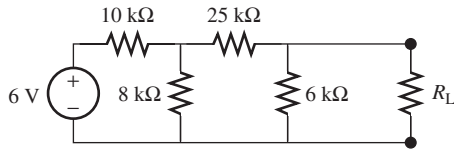

FIGURE P3.54 Circuit for Problem 3.54.
3.54 (A) Find the Thévenin equivalent resistance and voltage as seen by R_L for the circuit in Figure P3.54.
- 3.82 (A) Use PSpice to find the Thévenin equivalent resistance and voltage as seen by R_L for the circuit shown in Figure P3.54.